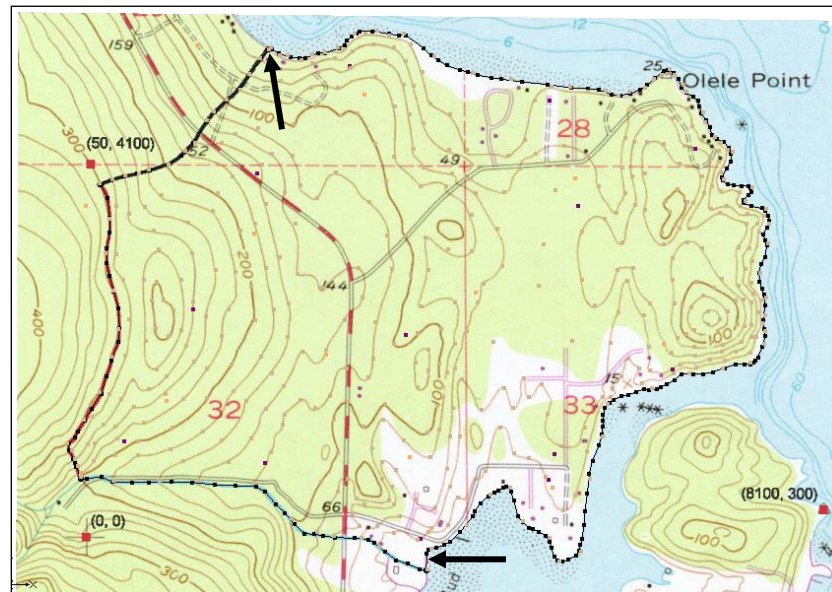

Figure 2 Coastline boundary arc
5. Create an arc for the coastline boundary (between the arrows in Figure 2). Once again, be sure that the arc is connected to the other boundary arcs.